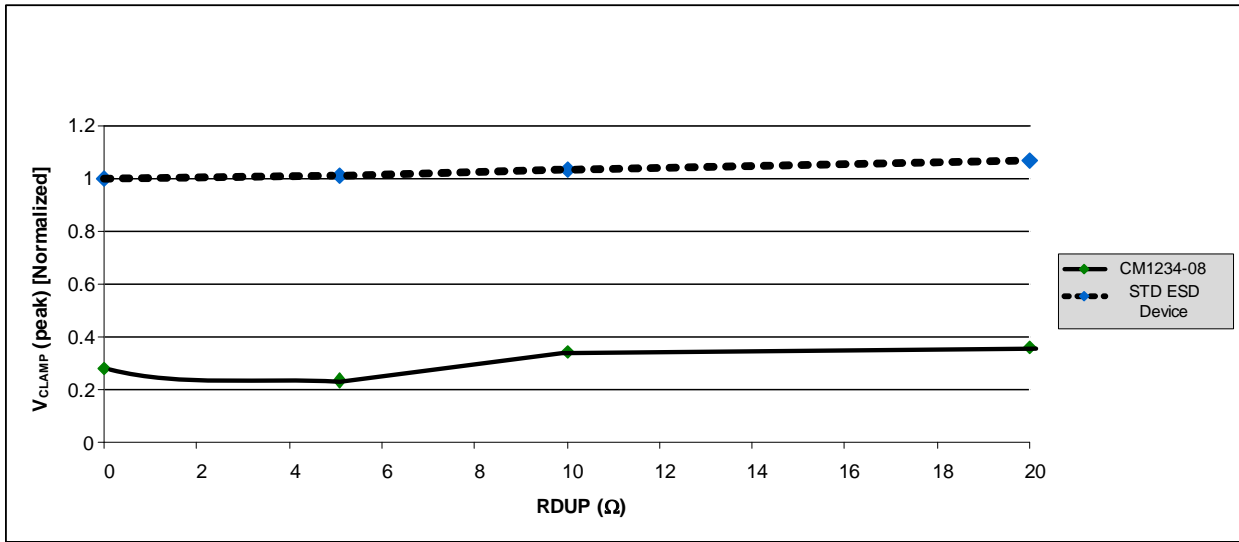
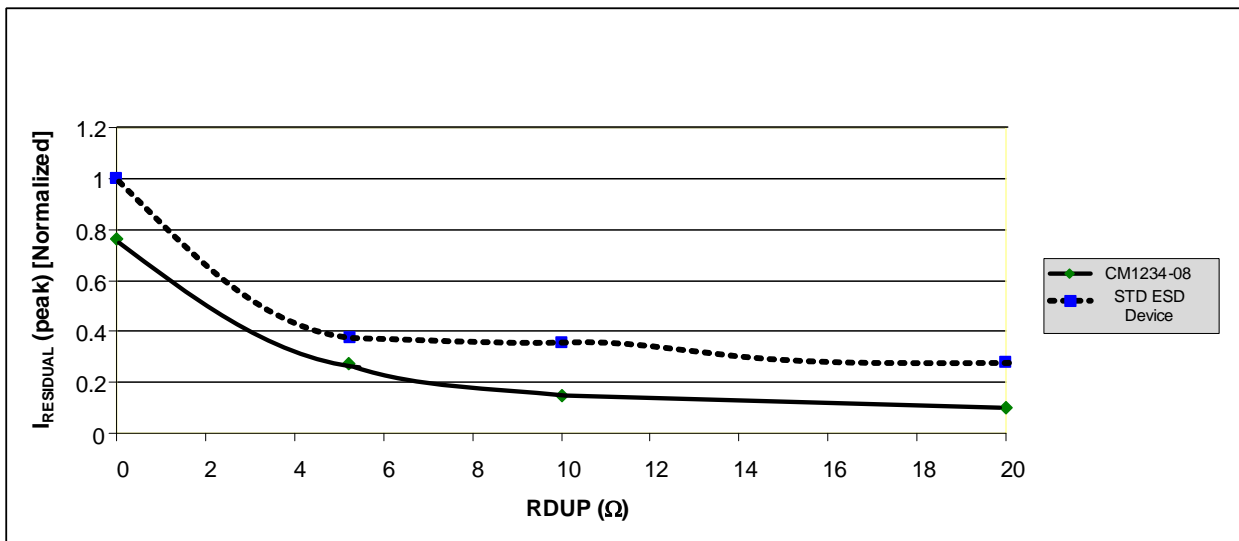
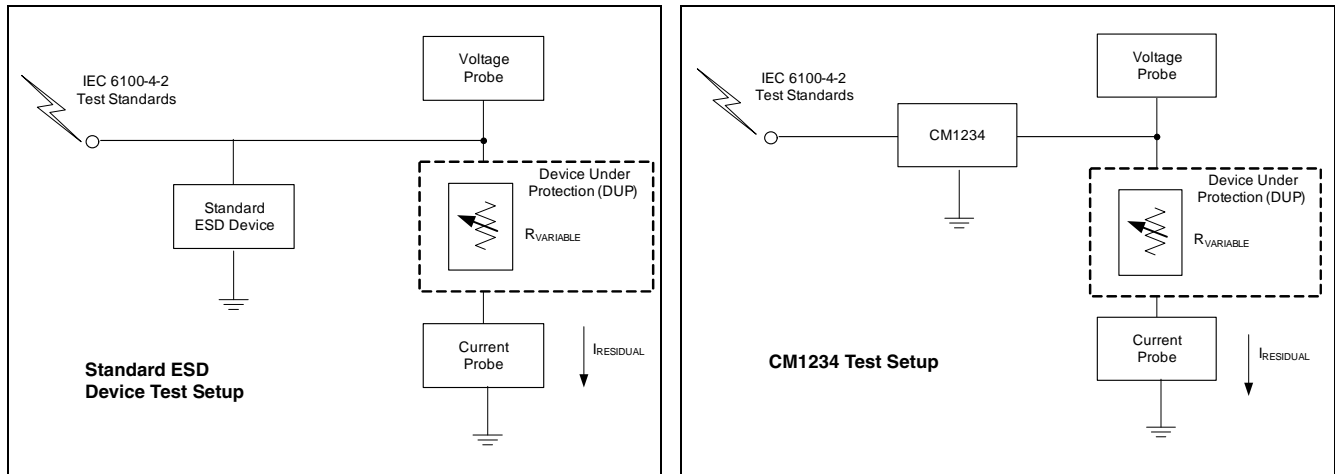

Figure 4. V_{CLAMP} vs. RDUP* (ASIC) – 8kV Contract Strike
Figure 5. $I_{RESIDUAL}$ vs RDUP* (ASIC) – 8kV Contract Strike
Figure 6. Test Setups: Standard Device (Left) and CM1234 (Right)
Figure 4 shows that the CM1234 (*PicoGuard XS* ESD protector) lowers the peak voltage and clamping voltage by 45% across a wide range of loading conditions in comparison to a standard ESD protection device. Figure 5 also indicates that the DUP/ASIC protected by the CM1234 dissipates less energy than a standard ESD protection device. This data was derived using the test setups shown in Figure 6.
* RDUP is the emulated Dynamic Resistance (load) of the Device Under Protection (DUP). See Figure 6.